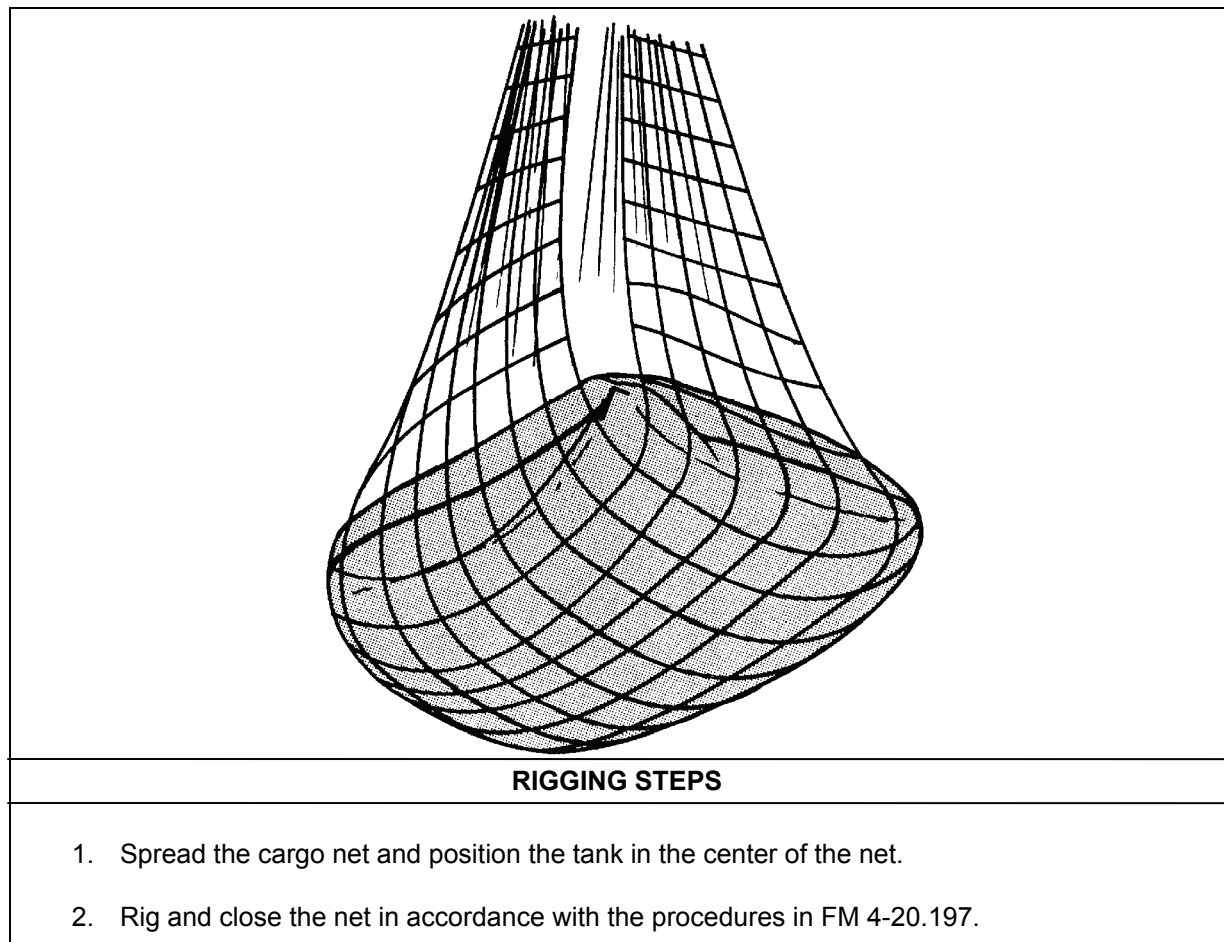

Figure 9-1. Lightweight Collapsible Fabric Tank
- **Rigging.** Rig the load according to the steps in Figure 9-1.